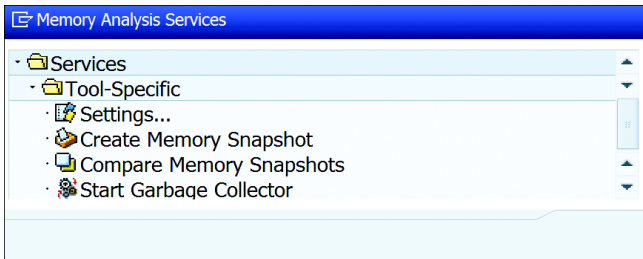

Figure 21.13 Create Memory Snapshot
2. Once the memory analysis tool is displayed, select the SERVICES OF THE TOOL button and select CREATE MEMORY SNAPSHOT, as shown in Figure 21.13. You can also use the menu path SYSTEM • UTILITIES • MEMORY ANALYSIS • CREATE MEMORY SNAPSHOT.